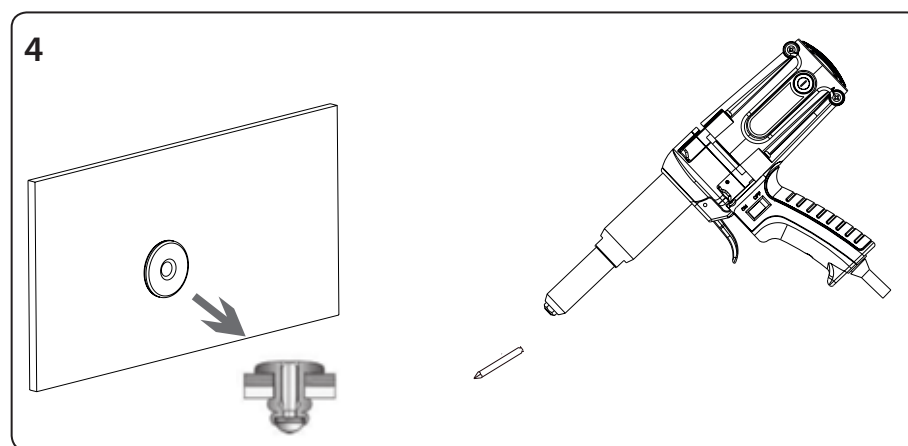

Fig.6
- d) When the trigger of the rivet gun is released, the rivet will be pulled and the mandrel of the rivet will be torn off and the rivet will be released from the barrel of the gun, see step 4, fig.6.